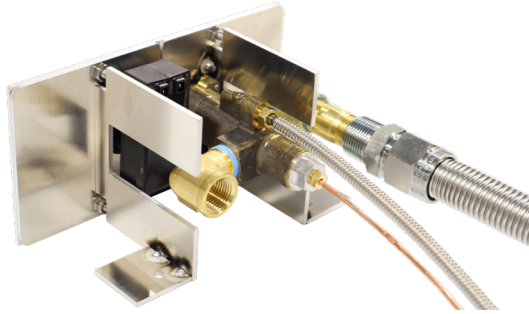

Figure 14: Connecting the Pilot Tube
**5.2** The pilot tube connects directly above the thermocouple. Thread the pilot tube into the brass fitting integrated into the valve body that is directly above the thermocouple connection. **(See Figure 14)** Tighten with a 7/16 in wrench and confirm that the pilot tube is firmly seated to avoid leaks.